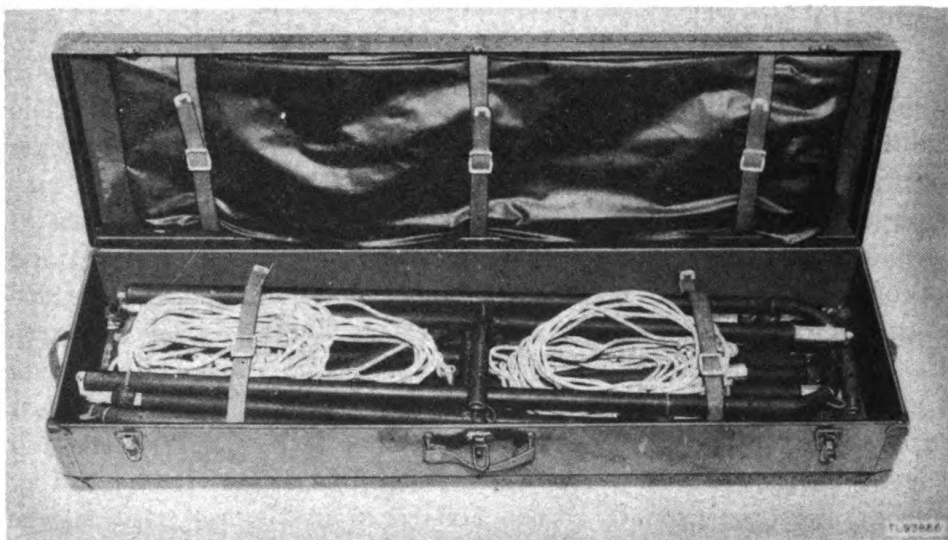

Figure 2. Carrying case showing Screen PH-555/GF packed.
c. SCREEN CASE (fig. 2). The plywood carrying case is painted olive drab. The folded cloth screen is strapped in the lid of the case. The frame sections, guy ropes, and stakes are stowed in the bottom of the case. The case is 47 inches long, 9¾ inches wide, and 6½ inches high, and is equipped with carrying handles at each end and on the top.